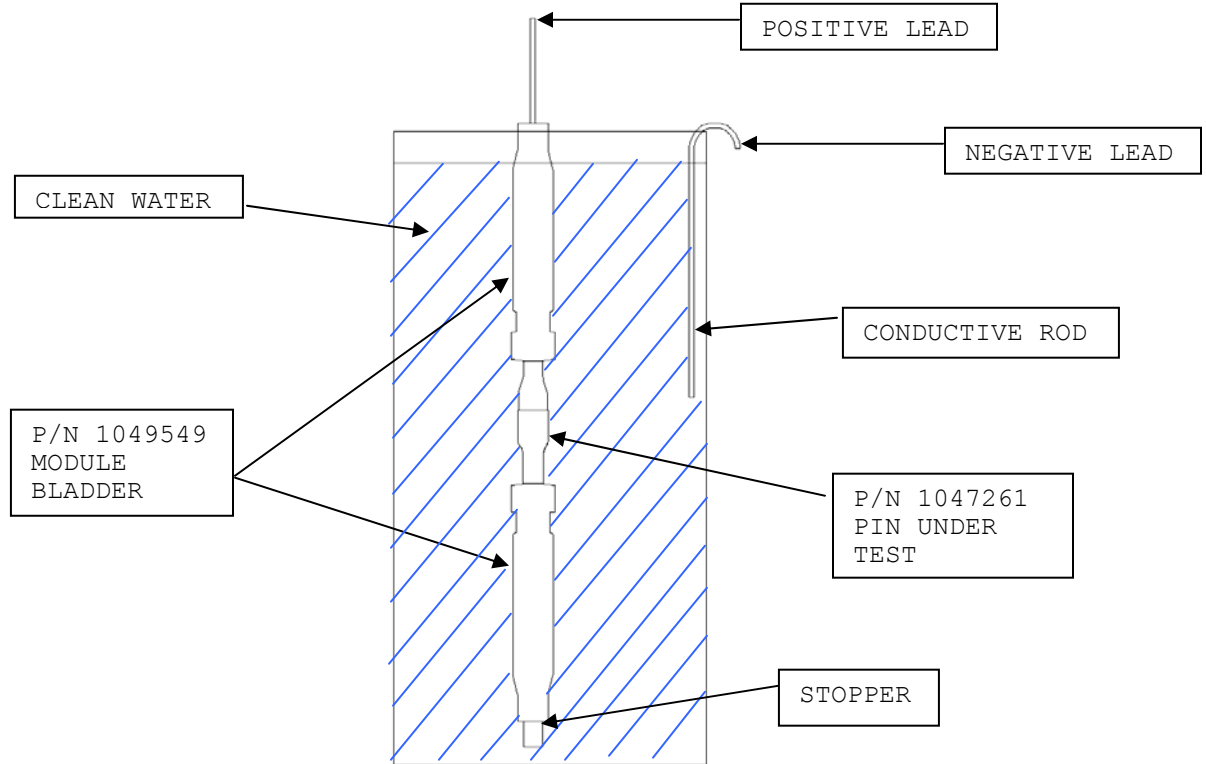

FIGURE 1: INSULATION RESISTANCE TEST SET-UP
- 6.7 OBTAIN TWO CLEAN MODULE BLADDERS (P/N 1049549). PERFORM AN IR TEST ON EACH PIN AT 10 KVDC FOR 10 MINUTE DWELLS. THIS TEST IS TO BE DONE BY WATERBLOCKING THE ENDS OF THE PINS AND SUBMERGING THEM IN A WATER BATH AS SEEN IN FIGURE 1. RECORD THE RESULTS IN TABLE 3. PASS ≥ 100 G Ω .
- 6.11 USING A MEASURING DEVICE SUCH AS A VERIFIED PIN GAGE, DETERMINE THE DISTANCE OF GAP "A" (SEE FIGURE 1) ON EACH OF THE 10 ASSEMBLED VESSEL CAP/BODIES TO THE NEAREST THOUSANDTHS OF AN INCH. RECORD THE VALUES IN TABLE 4 BELOW.